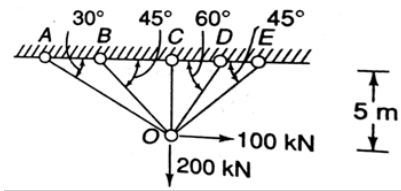

Figure 8
6. Analyse the pin-jointed structure shown in Figure 8 by using flexibility method. The cross sectional area of each member is 2000 mm^2 . Take $E = 200 \text{ kN/mm}^2$. [14 M]